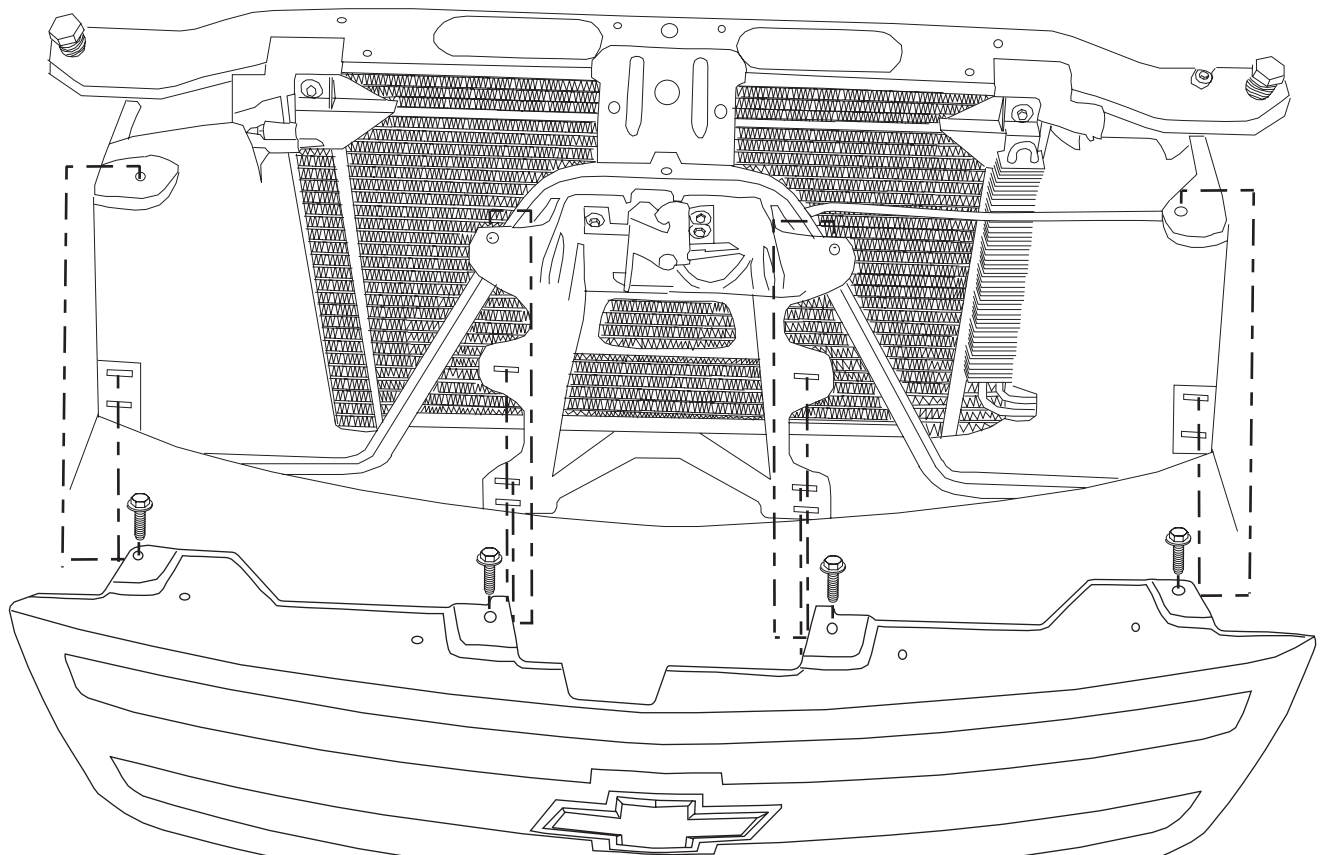

FIGURE 2
- STEP 3. Use a 10MM socket to remove the four bolts from the grille shell. **SEE FIGURE 2.**
- STEP 4. Using a pair of "needle nose" pliers, squeeze the six grille mounting clips. Begin from one end of the grille and insert a small screwdriver into the clips to prevent them from popping back into place. Remove the grille by pulling on it gently and evenly forward. **SEE FIGURE 2.**